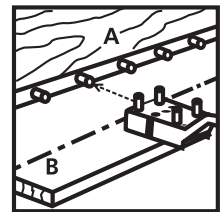

Figure 28
8. Turn the Quick Dowel Jig over so the pegs face up and slide the slot on the front of the jig over the corresponding dowel pins. See Figure 28.